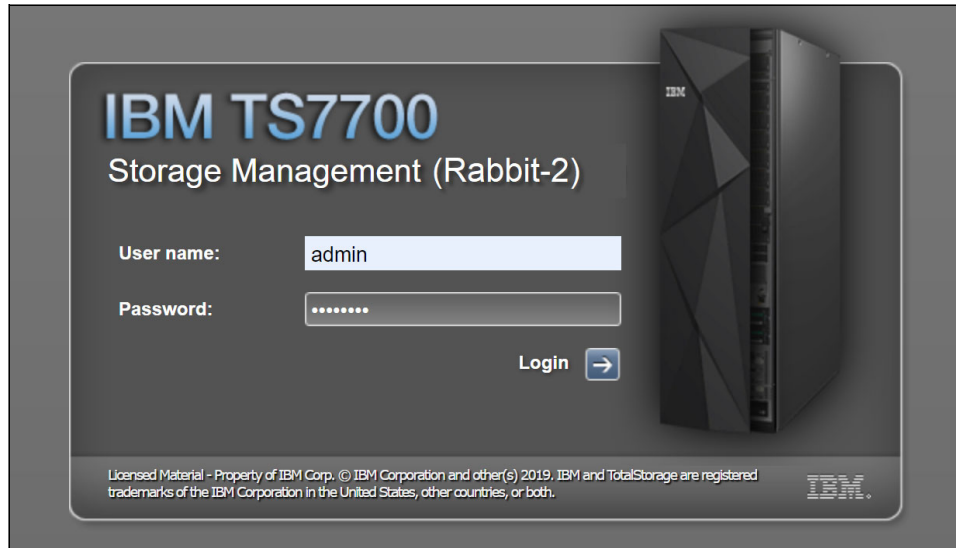

Figure 9-3 TS7700 MI login
4. The login page for the Management Interface loads, as shown in Figure 9-3 on page 358. The default login name is `admin` and the default password is `admin`. Starting with R5.0, the first time that an administrator logs in to the MI, the application reports the password as expired and requests the user to change it.
Every user (regardless of the role) can reset their own expired password from the MI login page (as shown on Figure 9-3) by entering the expired password and updating it.